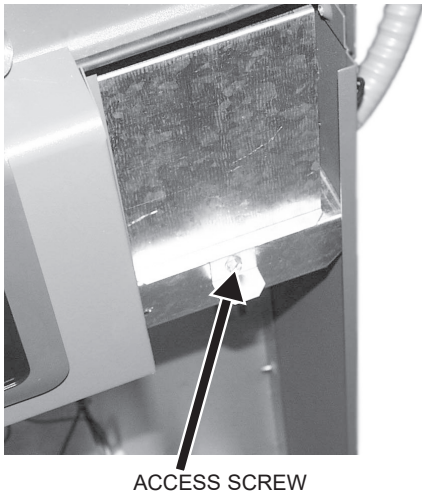

Figure 14. Transformer Cover Access
12. Using a 5/16" nut driver, remove the transformer cover located on the right side of the heater. See **Figure 14**.
15. Reinstall the transformer cover. See **Figure 14**.